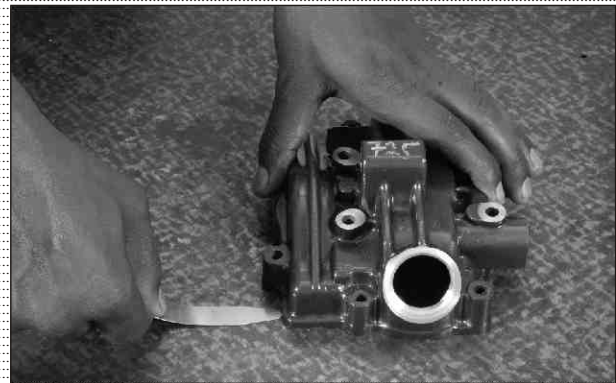

Fig. 3.122
- Using feeler gauge and surface plate, check cover cylinder head for distortion . (Fig. 3.122)